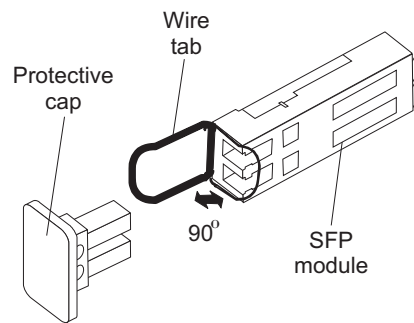

Figure 27. SFP module and protective cap
2. Remove the protective cap from the SFP module, as shown in Figure 27. Save the protective cap for future use.
2. If necessary, remove the protective cap from the SFP module, as shown in Figure 27 on page 51. Save the protective cap for future use.